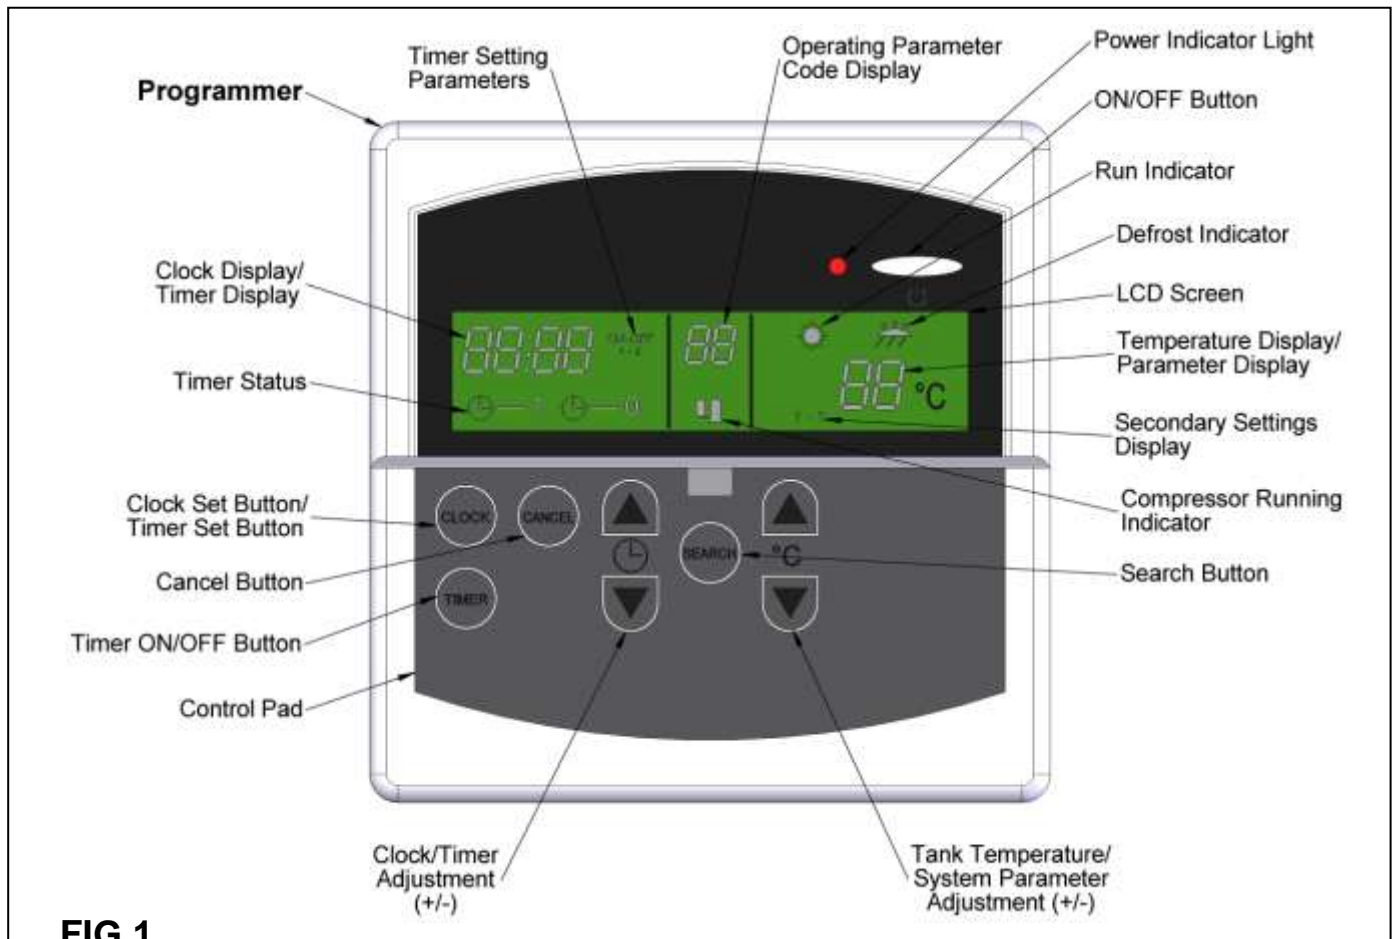

FIG 1
The diagram below (**fig. 1**) shows the programmer layout with the controls uncovered (lift off the protective flap).
In certain circumstances, the unit may enter a temporary lock out mode in order to maintain efficient operation. During such times, a code will appear on the programmer display (**fig. 1**). This is entirely normal and the unit will automatically resume functioning once it has completed its reset cycle.
If the temperature is cold enough for ice to develop on the coil, this may become clogged and cause the appliance to cease operation. Should this occur, the unit will automatically enter defrost mode. This will divert heat from the heating circuit back to the coil until the ice has melted. The DEFROST symbol will appear above the temperature display (see **fig. 1**) during such times.
1. The unit may be running through a process to clear an operating parameter condition. In most cases, this will be cleared automatically, though if it persists, check the programmer display (**fig. 1**) for an operating parameter number. Refer to the guide on **page 21** for full descriptions and remedies.
4. Check the unit has not entered defrost mode (the DEFROST symbol will appear above the temperature display – see **fig. 1**). Should this occur, the heat output from the appliance will be diverted to the coil, until any ice build-up has been removed.